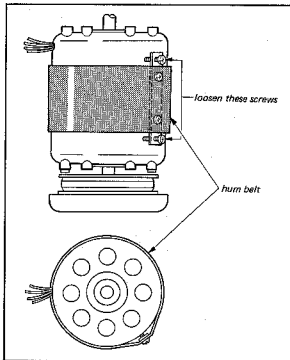

Fig. 4-17. Hum belt replacement
8. Install the hum belt on the new motor. Position the mounting screws as shown in Fig. 4-17. Make sure that the hum belt straddles the two end bells equally.